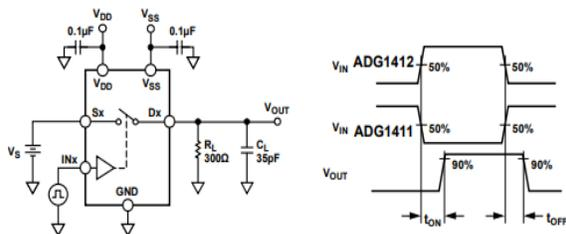
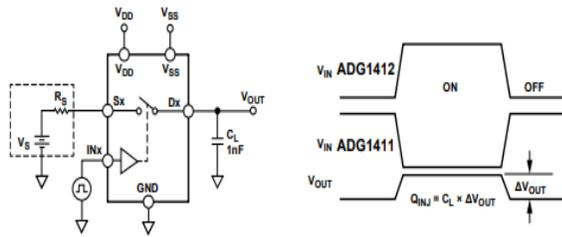

Figure 17. Switching Time Test Circuit
Figure 22. Charge Injection Test Circuit
The timing specifications of the switch determine the amount of time it takes for it to change its state. Timing parameters are measured using the test circuits shown in Figure 17, Figure 20, Figure 21, and Figure 22.
(IN) and the 90% of the output switching on as shown in Figure 17.
The delay between the 50% level of the digital control (IN) and the 10% or 90% of the output switching off as shown in Figure 17.
The charge injection introduces a step change in output voltage when switching as shown in Figure 22 test circuit. The change in output voltage  $\Delta V_{OUT}$ , is a function of the amount of charge injected,  $Q_{INJ}$  (which is in turn a function of the gate-drain capacitance,  $C_Q$ ) and the load capacitance,  $C_L$ .